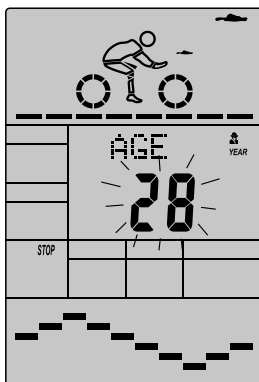

Fig 37
- The age display will flash, and then press (or rotate) button UP/DOWN to set up your age. Press ENTER to confirm the value. (Fig 37)